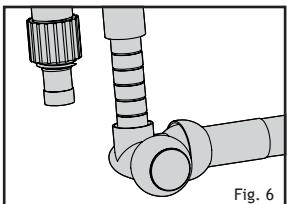

Fig. 6
15. Choose which outlet option you want to use. The elbow has 2 outlets which can be connected to 2 spray bars, 2 duckbill outlets, one of each or one of the outlets can be covered with a cap (Fig. 6) to give a single outlet option. The spray bar can be extended using the connector supplied. To provide sufficient pressure for the extended spray bar it is highly recommended that the second outlet be capped.